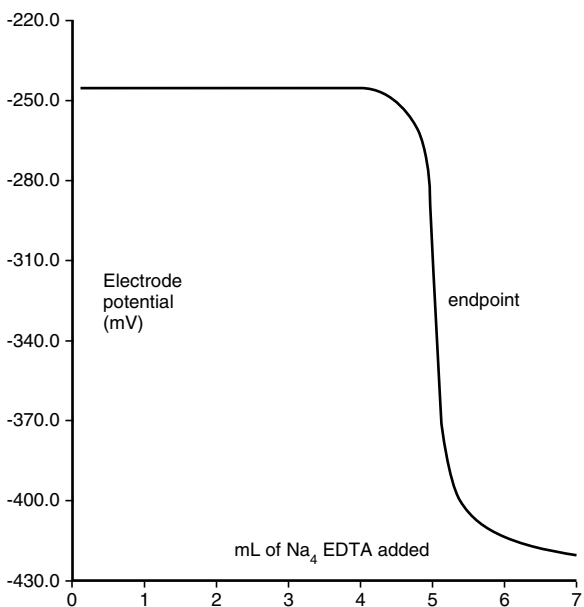

Figure 3: Typical Titration of 100 mL of 5×10^{-3} M $\text{Cd}(\text{NO}_3)_2$ (pH Adjusted to ~10 with Ammonia) with 0.1 M Na_4EDTA
2. Using a 10 mL burette, add increments of titrant and plot electrode potential against mL of titrant added. The end point is the point of greatest slope (inflection point). See **Figure 3**.